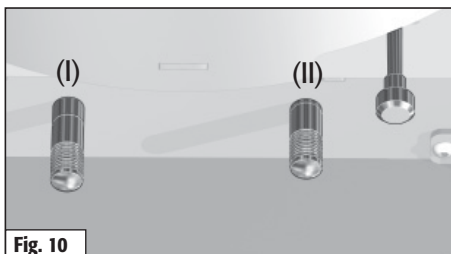

Fig. 10
Adjust primary air.	Set primary air slider (I) between position 1 and 2. (fig. 10)
Adjust secondary air.	Set secondary air slider (II) to position 1. (fig. 10)